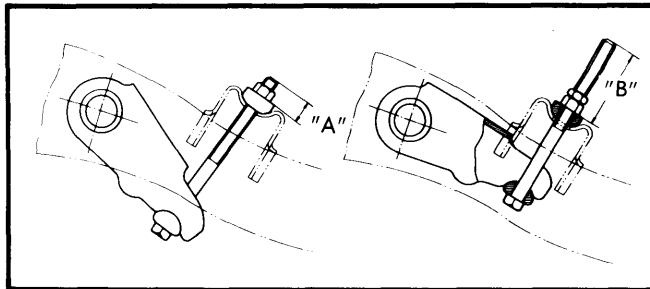

Fig. 2 View Showing Measuring Points for Installation of Anchor Pin
- 2) Install anchor arm to serrations on torsion bar. Install anchor arm adjusting bolt to anchor arm. On 2-WD, install snap ring and dust cover to anchor arm. On all models, tighten anchor arm adjusting bolt to obtain specified dimension "A" when bar is in contact with rubber bumper. See Fig. 2.
- 3) Temporarily adjust anchor arm adjusting bolt to obtain dimensions "B" and install lock nut. See Fig. 2. On 2-WD, install snap ring and dust cover to anchor arm.